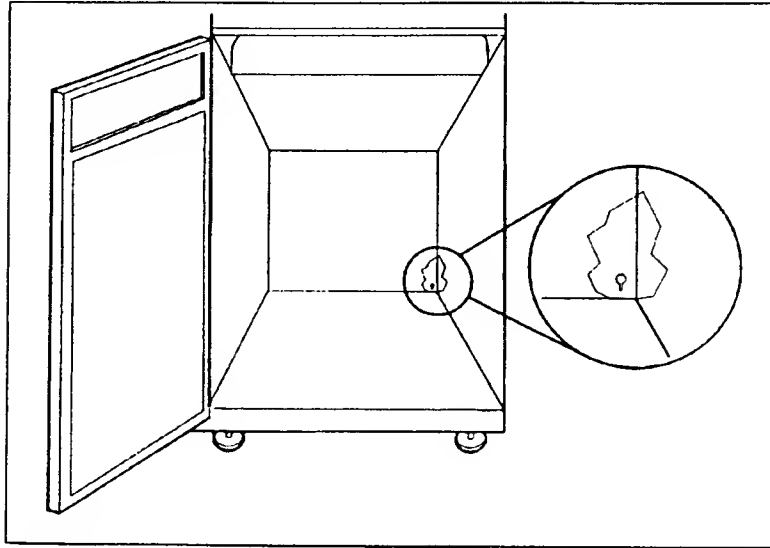

Figure 2-18. Installing Sound Shroud
- g. Tighten the two bottom screws to the back panel from inside the printer stand. You will need to hold back the soundproofing foam in order to reach the screws (Figure 2-18).